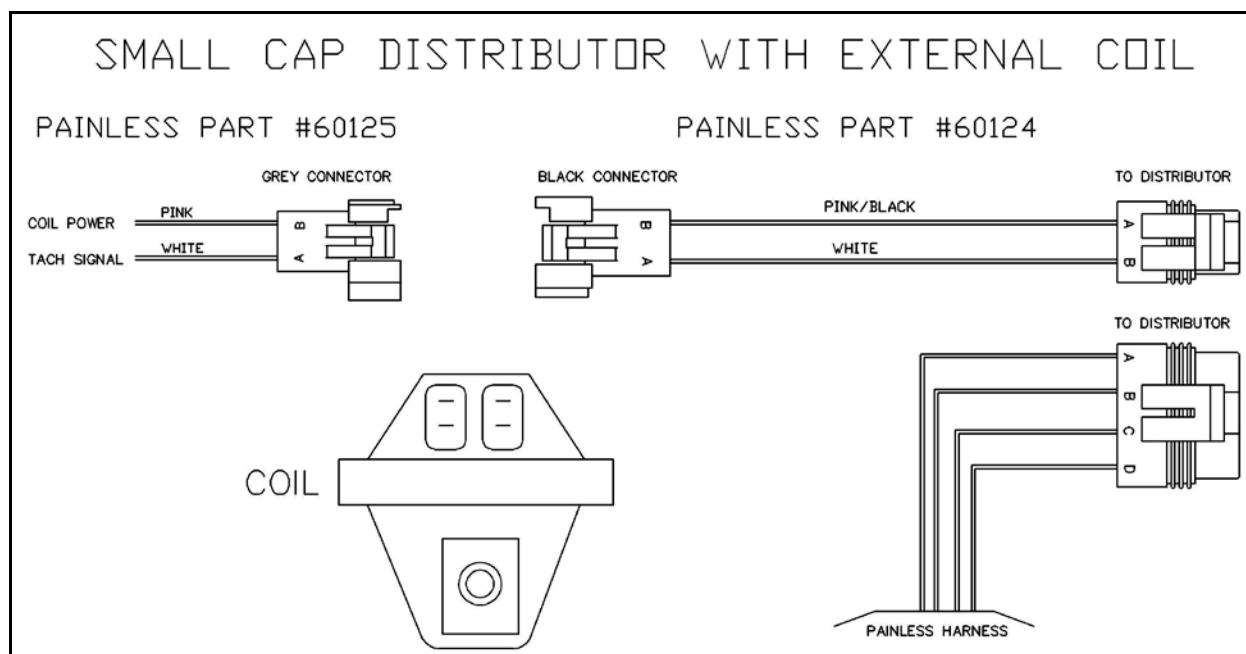

Figure 4.2 External Coil Distributor Hook-up
- 4.2.2** If you are using a separate coil type distributor, then you will use the distributor adapter included in the kit. You will also need to obtain the distributor to coil and coil power/tach pigtails either from your local dealer, a wrecking yard or from the original harness. The wiring for the separate coil system is shown in **Figure 4.2**.